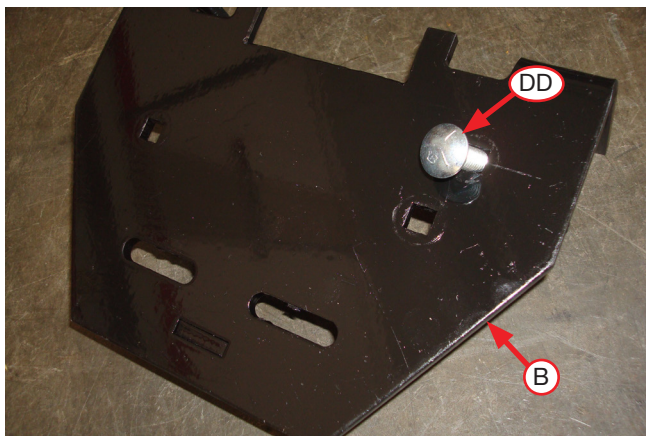
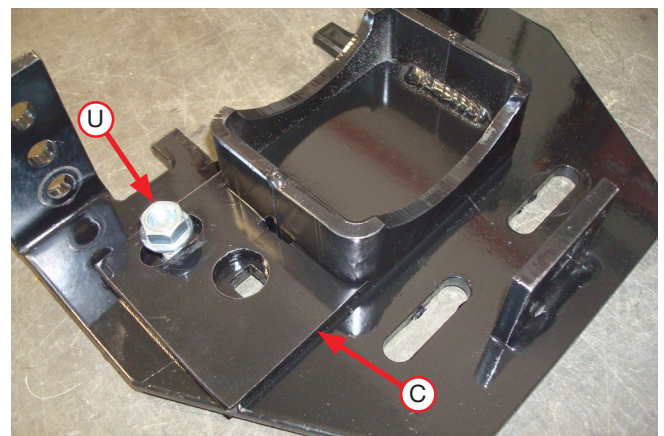

Fig. 10
Fig. 11
- Insert a 3/8"-16 X 1" carriage bolt (DD) through the top of the lower bracket (B) as shown in Fig. 10. Flip the assembly over and set the lower bracket cup (C) onto the lower bracket and over the carriage bolt (Fig. 11). Cap with 3/8"-16 serrated flange lock nut (U) and snug the nut only. Leave loose enough for the bracket to move freely in the slot.